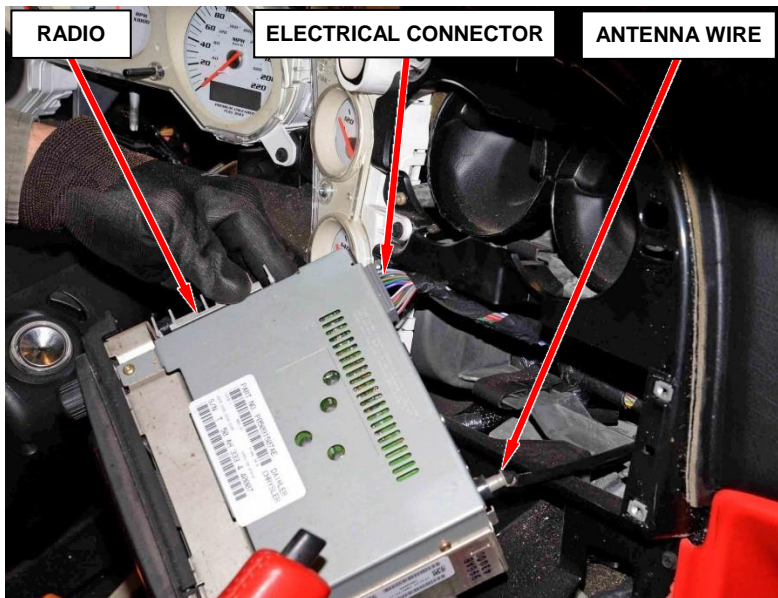

Figure 14 – Radio Electrical Connector and Antenna Wire
32. Carefully pull the radio out of the instrument panel. Disconnect the antenna wire and the electrical connector from the back of the radio. Then remove the radio from the vehicle (Figure 14).
51. Connect the antenna wire and electrical connector to the back of the radio then install the radio to the instrument panel (Figure 14).